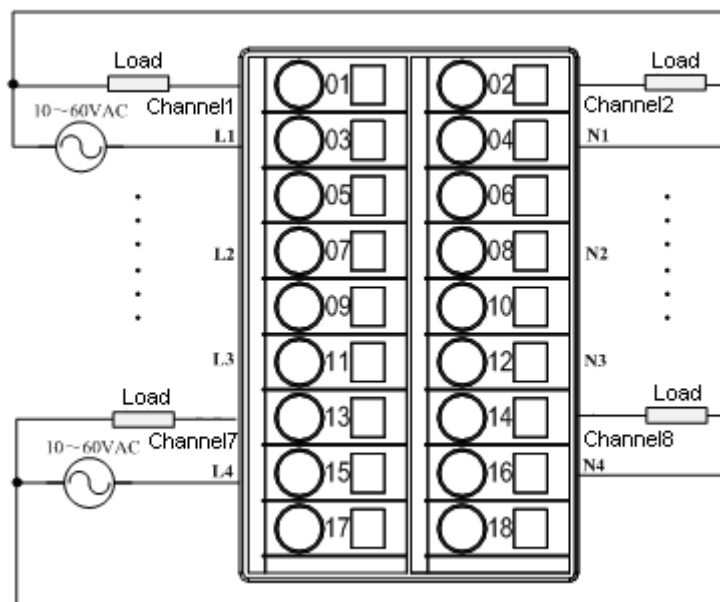

Figure 9.13: Wiring of LK711 Backplane Terminals
- LK711 module is wired through the correspondence terminals under the backplane installation slot. The relationship between each channel and terminal is shown in Figure 9.13. One ends of the 8 channel loads connect to the wiring terminals of their correspondence channels while the other ends connect to each field power supply.